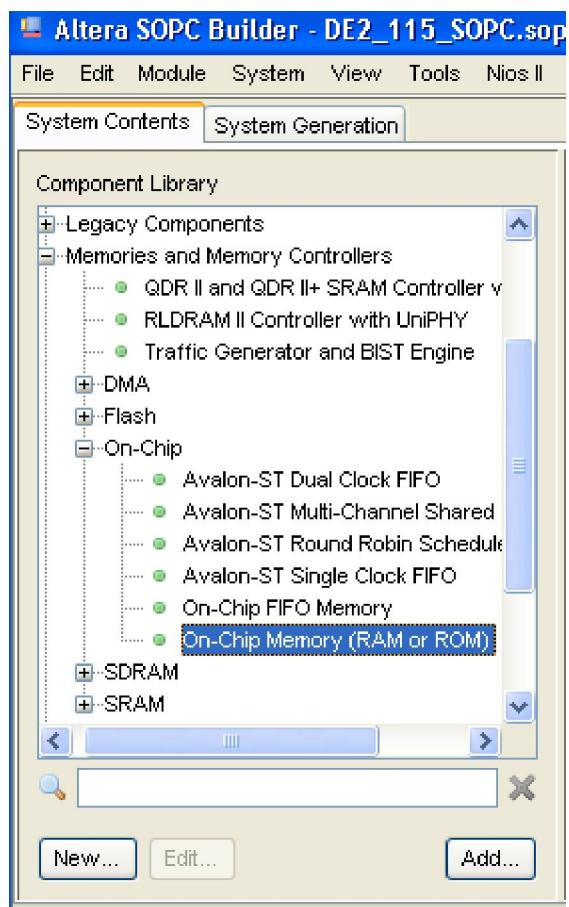
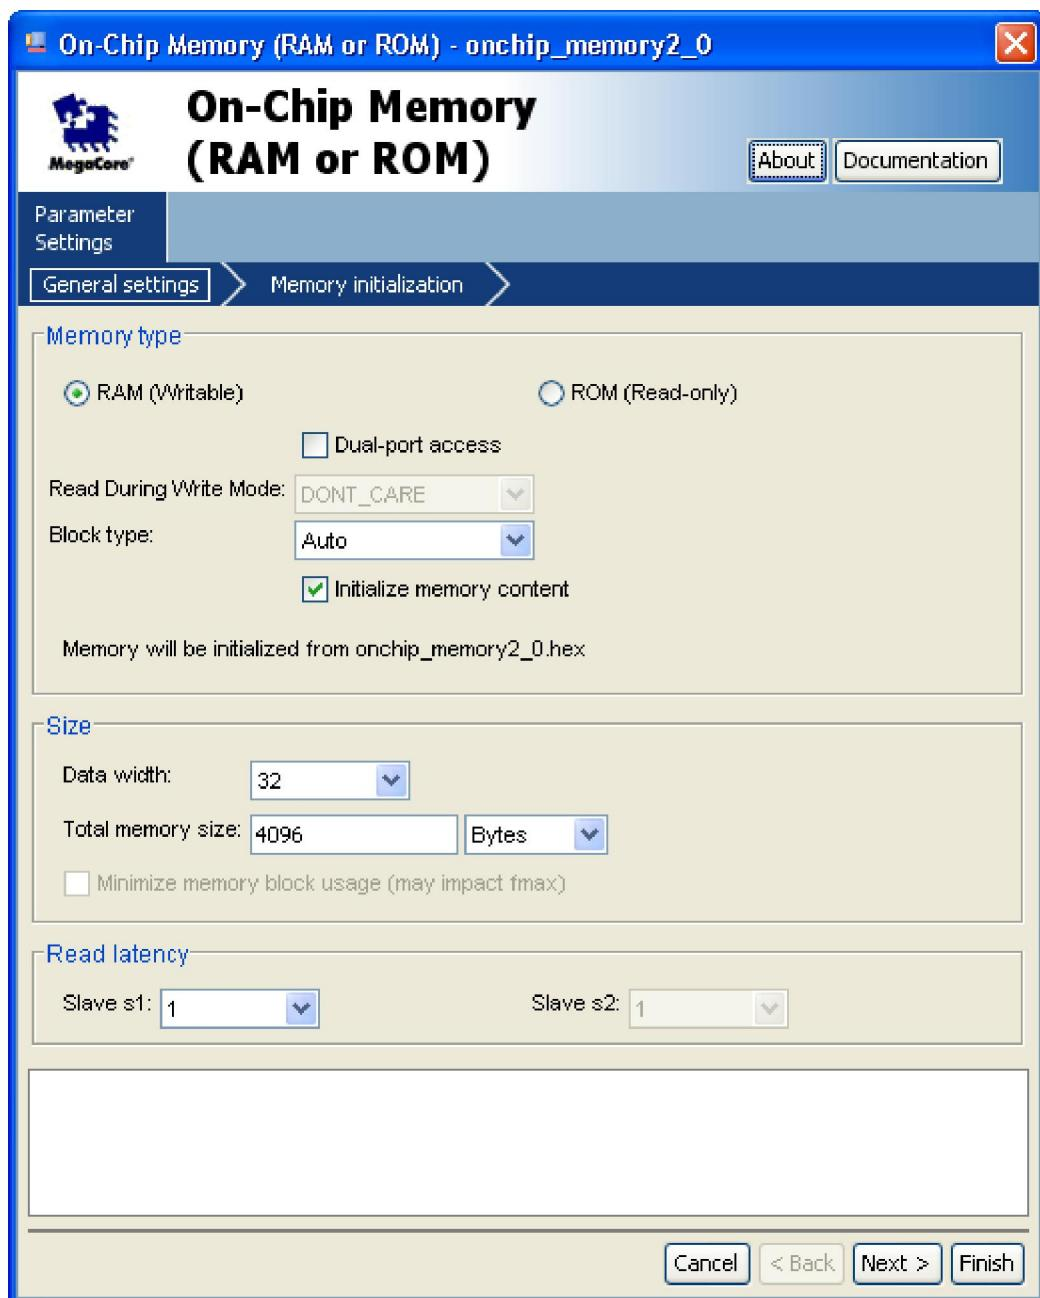

Figure 1-23 Add On-Chip Memory
Figure 1-24 On-Chip Memory Box
15. Choose **Library** > **Memories and Memory Controllers** > **On-Chip** > **On-Chip Memory (RAM or ROM)** to open wizard of adding On-Chip memory. See Figure 1-23 and Figure 1-24.